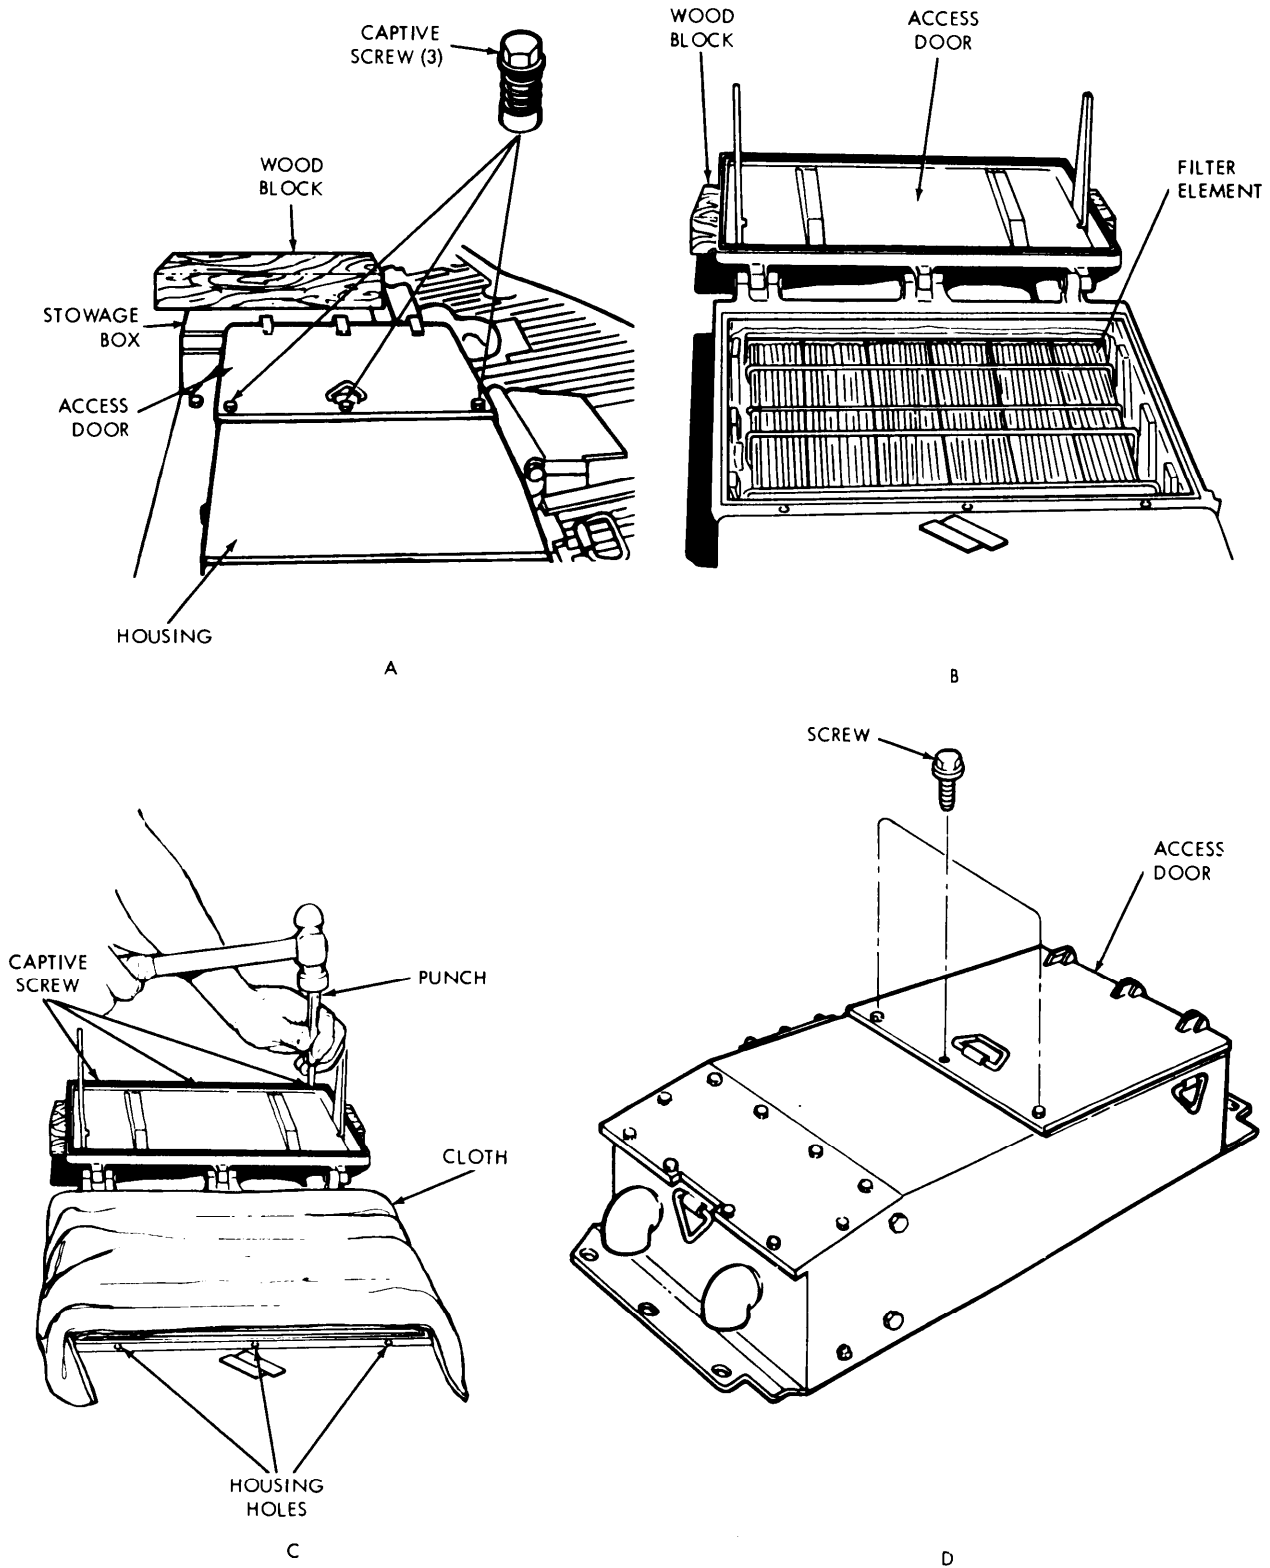

Figure 4-5. Top loading air cleaner captive screw replacement.
(1) Tools and Materials Required
(2) Procedure (Fig. 4-5).